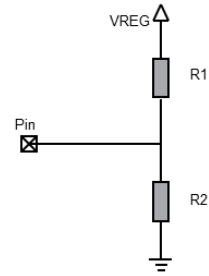

Figure 6. 16 Configurations and their Resistor Values
2. Resistive dividers are used to provide a fixed value to any of the parameters controlled by the four configuration pins. Table 4 shows parameter values related to corresponding configuration numbers (1 to 16). Figure 6 lists the corresponding component values to use in the resistive divider (R1 and R2).